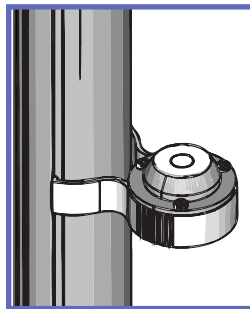
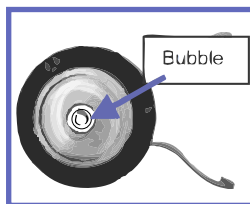

Fig. 17
Fig. 18
- 10) Before the EASYTRACK post tightens against the ceiling; check the clip-on level to make sure the bubble is in the centre of the circle. Tilt the post until the bubble reaches the centre of the circle, see Fig. 17 and Fig. 18.